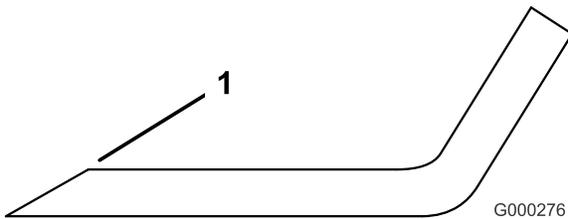

Figure 86
- Use a file to sharpen the cutting edge at both ends of the blade (Figure 86). Maintain the original angle. The blade retains its balance if the same amount of material is removed from both cutting edges.